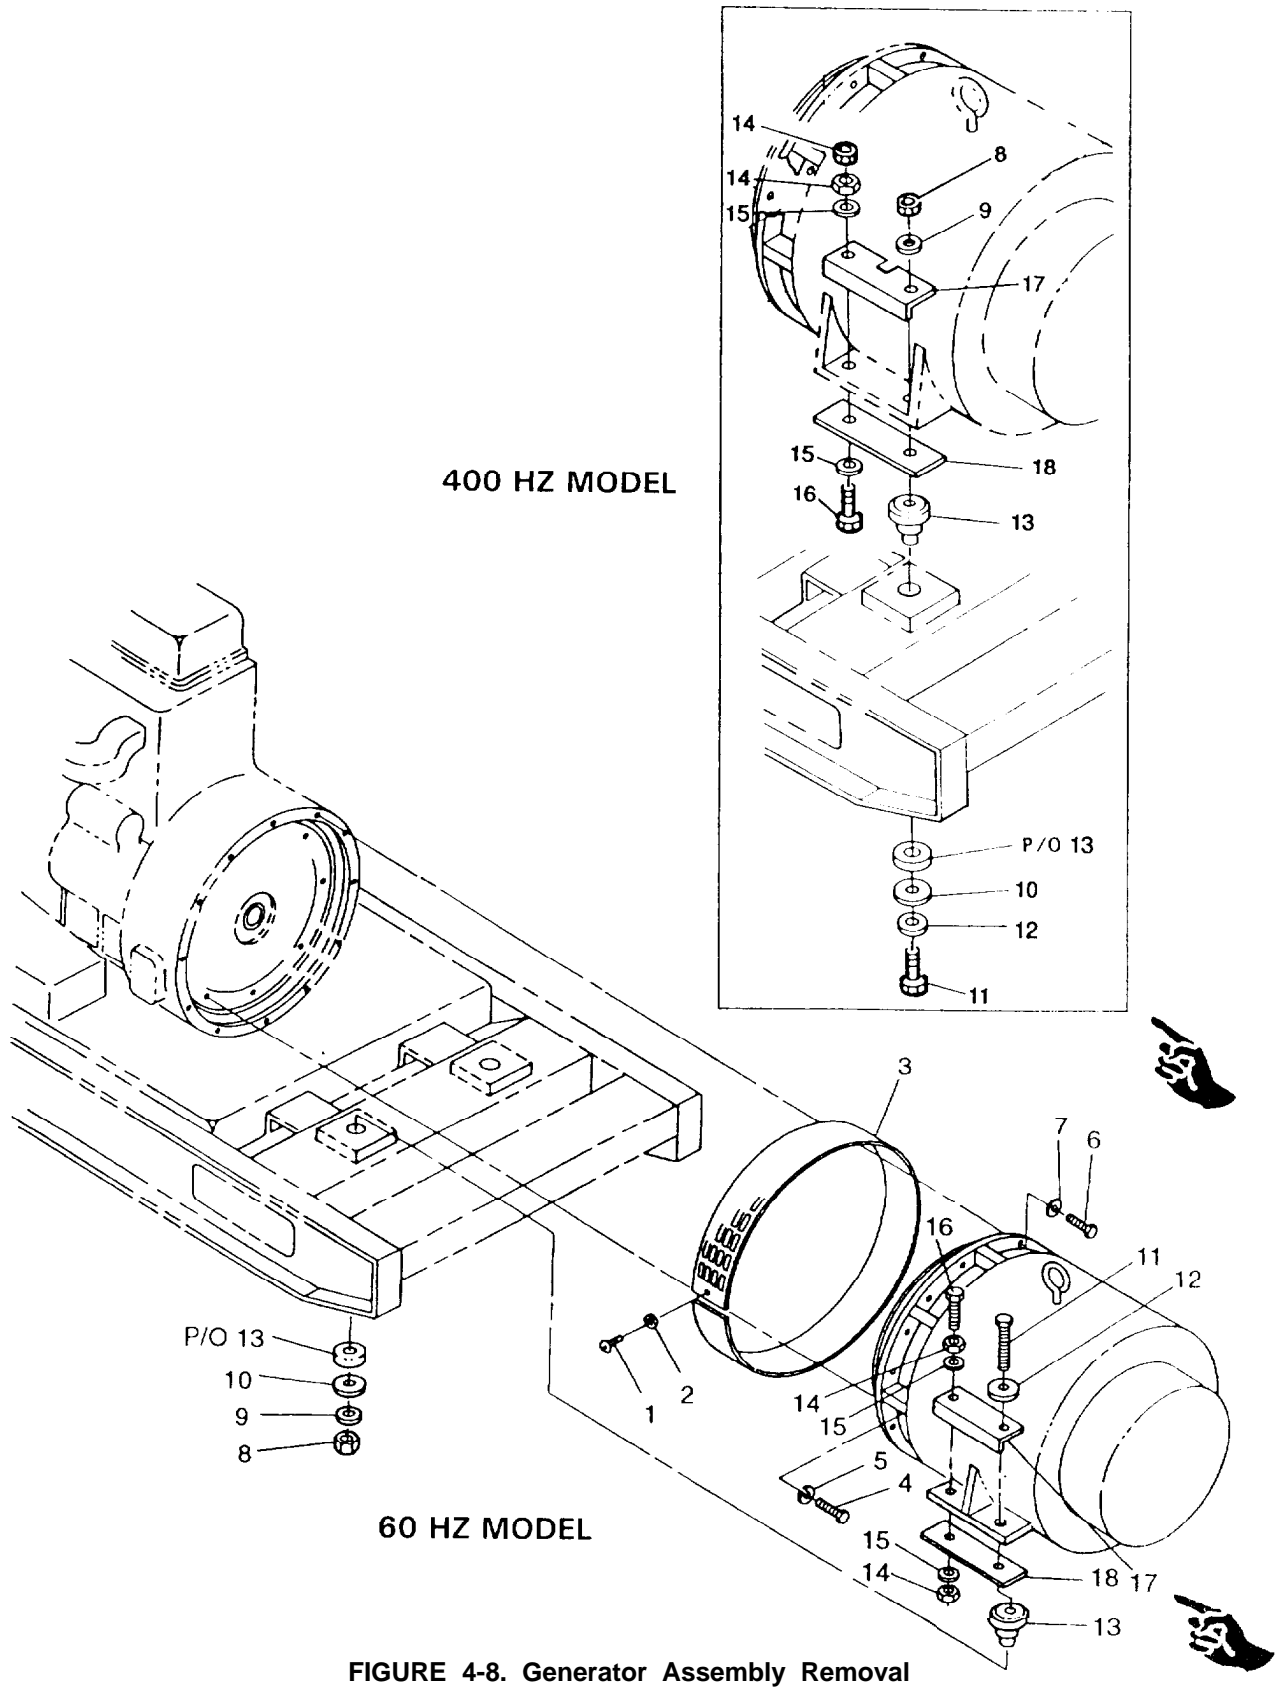

FIGURE 4-8. Generator Assembly Removal
- f. Remove screw (1, FIGURE 4-8), washer (2), and screen/cover (3) from generator case.
- g. Remove bolts (4) and lockwashers (5) securing generator drive disc to engine flywheel.
- h. Remove bolts (6) and lockwashers (7) securing generator to engine flywheel housing.
- i. Remove nuts (8), washers (9), snubbing washers (10), bolts (11), and Belleville washers(12) securing generator to skid base.
- k. Remove shock mounts (13) from skid base.
- l. Remove nuts (14), washers (15), bolts (16), angles (17), and plates (18) from generator.
- a. Position generator shock mounts (13, FIGURE 4-8) in skid base.
- b. Install angles (17) and plates (18) on generator with bolts (16), washers (15), and nuts (14).